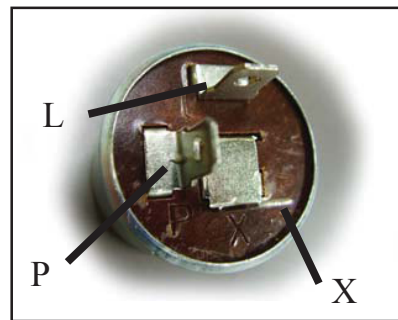

Figure 3 - Flasher Relay
- Connect the flasher by attaching one of the female connectors supplied, to the unused end of the red fuse holder wire. Connect this red fuse holder lead to the "X" terminal of the flasher relay (See figure 3).
- Connect the blue wire from the adapter plug, to terminal "P" on the flasher relay (See figure 3).
- Connect the black wire from the adapter plug, to terminal "L" on the flasher relay (See figure 3).